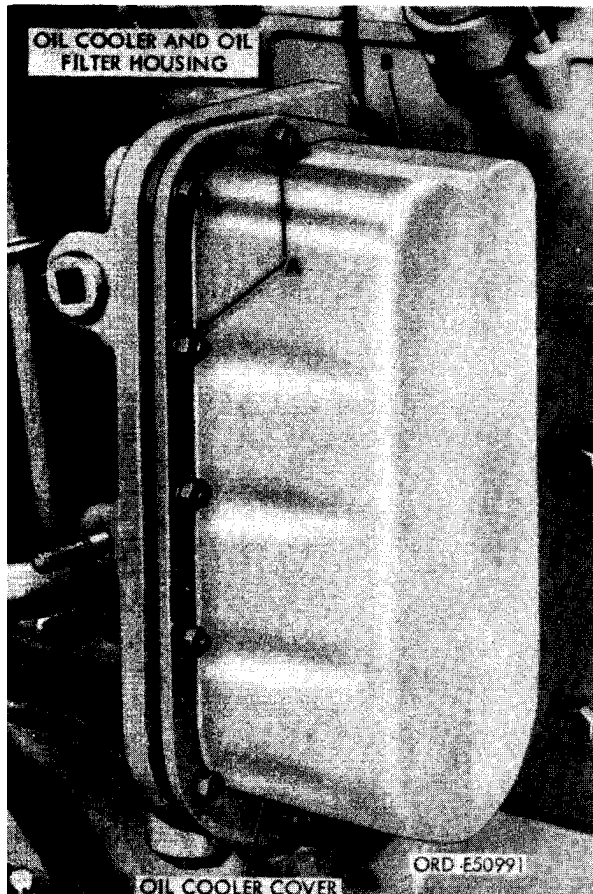

FIGURE 134. REMOVING OR INSTALLING OIL COOLER COVER.
- (4) Figure 134. (A) Remove twelve 1/4-inch plain nuts and 1/4-inch lock washers securing oil cooler cover to oil cooler and oil filter housing. (B) Remove oil cooler cover.